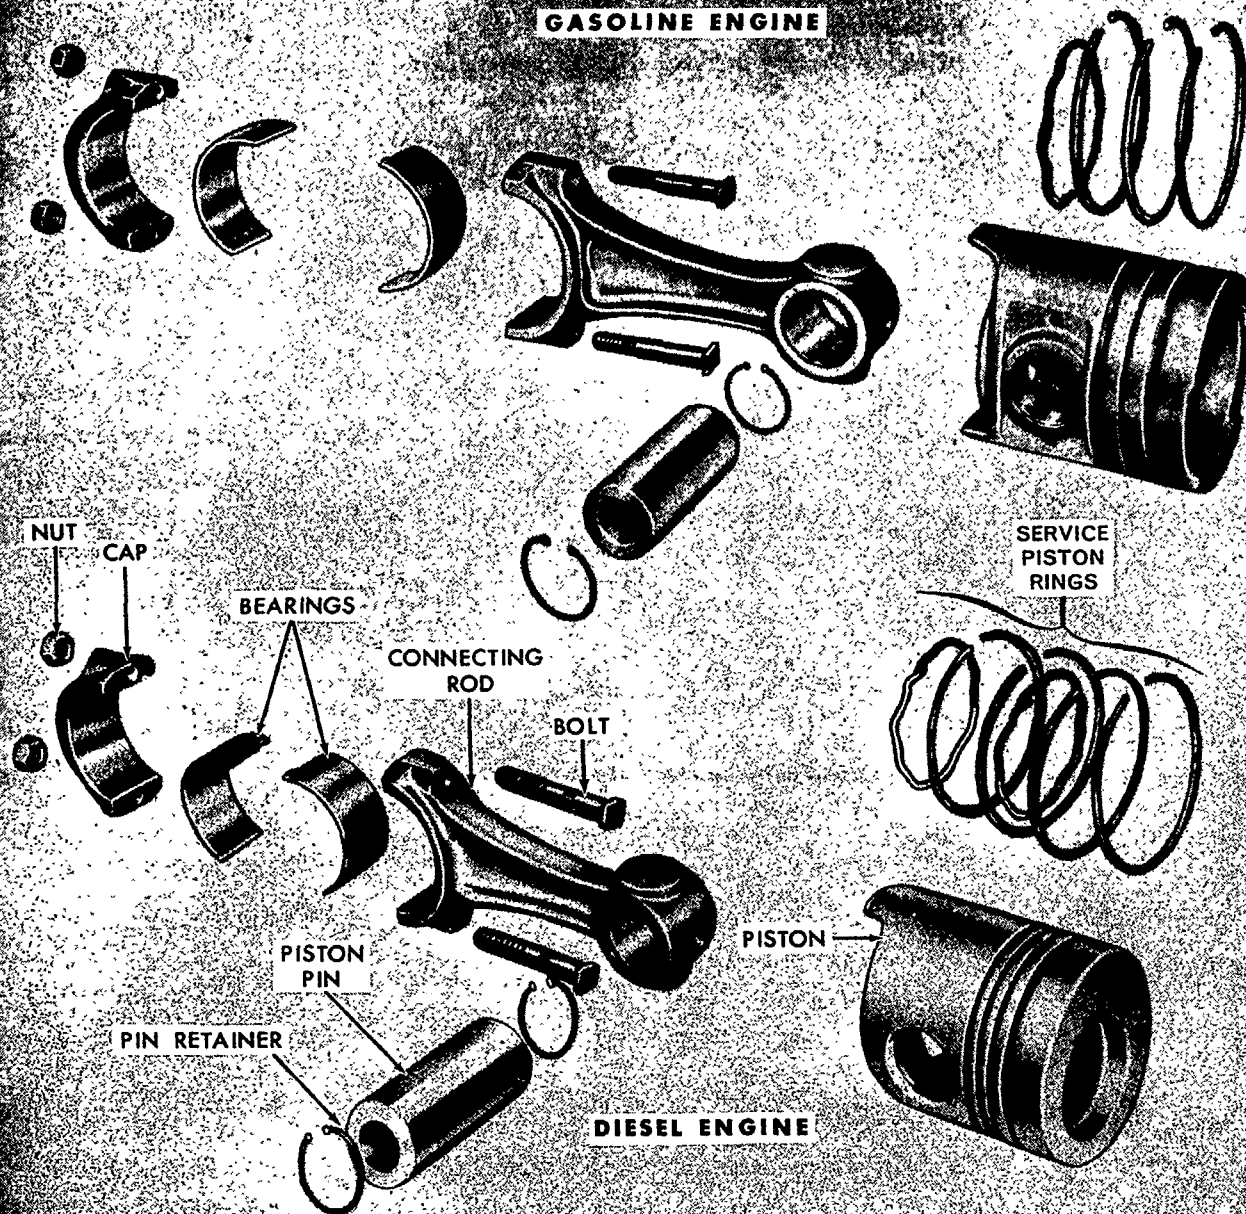

Figure 55
1. Lubricate all parts generously with engine oil during assembly. All parts of the piston and connecting rod assembly are shown in Figure 55, for both the LP and gasoline engines. Use the illustration for reference during assembly.